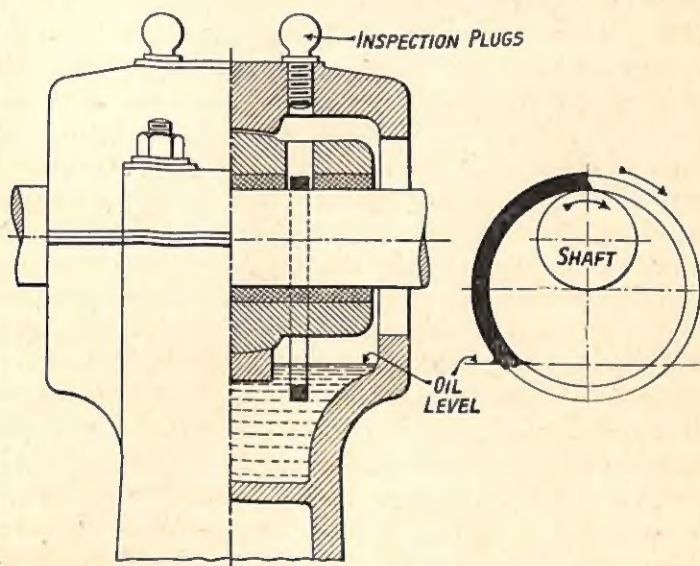

Fig. 1.—Part section of pedestal sleeve bearing, showing action of oil ring
**PLAIN BEARINGS.** A typical example of a plain or sleeve bearing is shown in fig. 1. The shaft journal rotates in a bronze or brass bush, frequently lined with white metal. The bush or sleeve is usually split into two halves, the upper half or *cap* having oil grooves cut in the internal surface. The oil is fed to the grooves by the oil ring, or rings, which are, as shown, much larger than the shaft, and which revolve slowly by friction, taking up a thin film of oil from the reservoir which is kept filled to the correct level, as shown by an oil gauge.